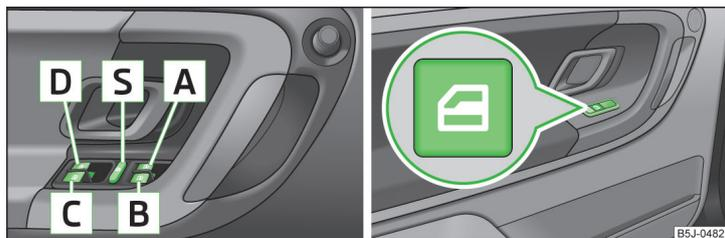

Fig. 37 Buttons on the driver's door/in the rear doors
- Deactivating the electrically operated power windows in the rear doors is recommended (safety push button)  when children are being transported in the rear seats » Fig. 37 on page 52.
- After switching the ignition off, it is still possible to open or close the windows for approx. 10 minutes. After the driver's or front passenger's door has been opened, the windows can only be operated by using [\[A\]](#) » Fig. 37 on page 52.
Power window buttons » Fig. 37.
The buttons for power windows in the rear doors can be deactivated by pressing the safety switch [\[S\]](#) » Fig. 37. The buttons for the electrical power windows in rear doors are activated again by pressing the safety pushbutton [\[S\]](#) again.
- Hold button  » Fig. 37 on page 52 in the opening position.
- Hold Button  » Fig. 37 on page 52 in the closing position.